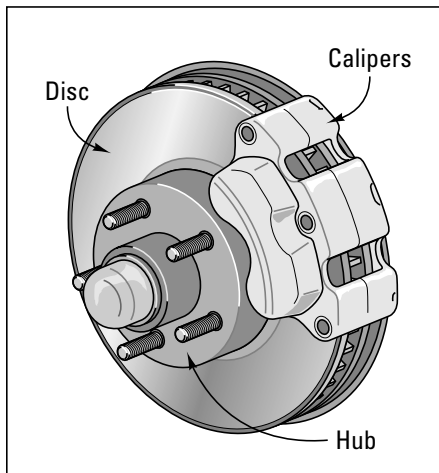

Figure 4-15: A disc brake.
4. Each wheel has either a **disc brake** or a **drum brake**. To keep it simple, I just look at disc brakes here. (Drum brakes work on the same general principles, as I explain in Chapter 14.) A disc brake is composed of a flat, iron disc (surprise!) sandwiched between a pair of **brake pads** by a **caliper**, as shown in Figure 4-15. The caliper contains one, two, or four pistons that force the friction material on the pads against the disc.